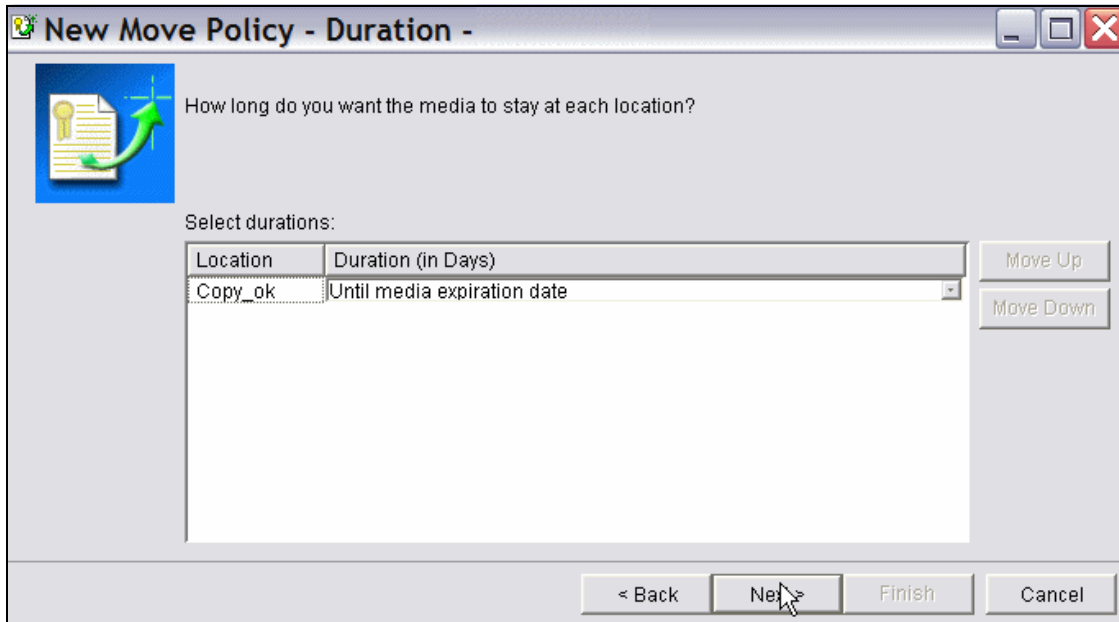

Figure 5-47 BRMS virtual move policy, duration
5. In the New Move Policy - Duration window shown in Figure 5-47 on page 235, the Duration field should display the text `Until media expiration date`. Click **Next**.